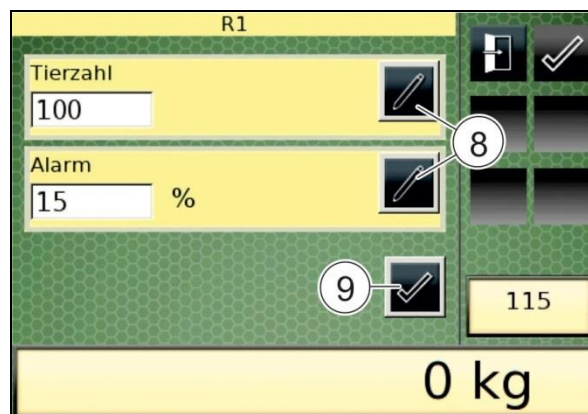
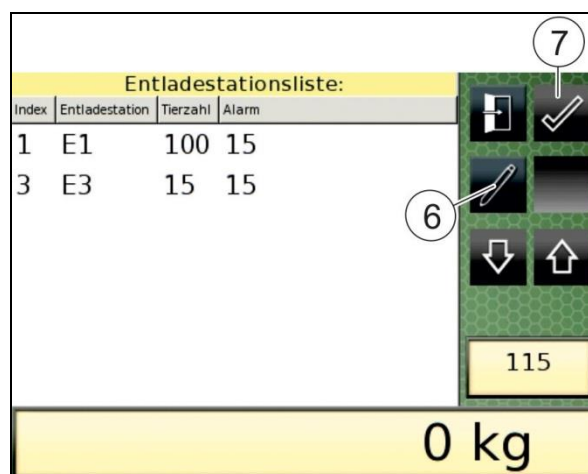

Fig. 216
Fig. 217
- 4.5 Press the "Change entry data" key (6).
- The "Recipe overview - Discharge stations" display (Fig. 216) appears.
- 4.9 Press the "Confirm" key (9) to finish the change of settings regarding the selected discharge station.
- The "List of discharge stations" display (Fig. 217) appears.